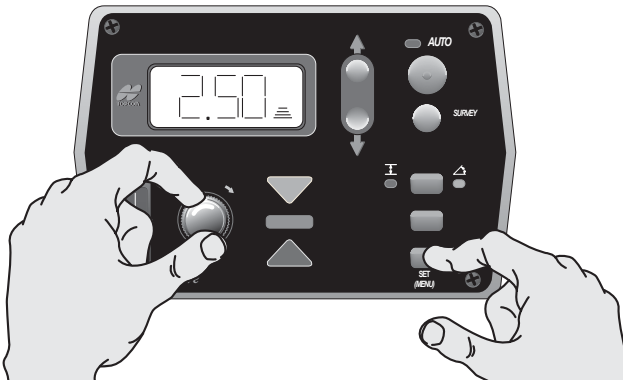

Figure 5-7. Saving Elevation Value
2. To make the display read the same value as the depth of mat to be laid, press and hold the Set button while turning the grade adjustment knob to change the display to the height of the blocks under the screed (Figure 5-7).